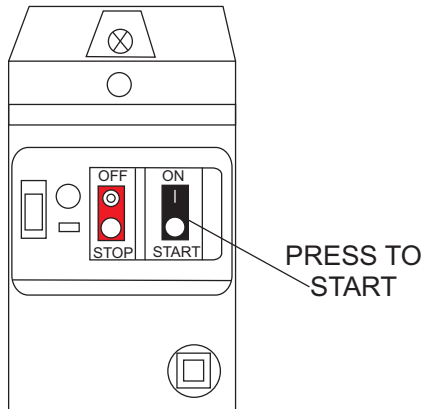

Figure 22. Electric Motor On/OFF Switch (Start)
- To start the electric motor, press the **black ON/START** switch (Figure 22).